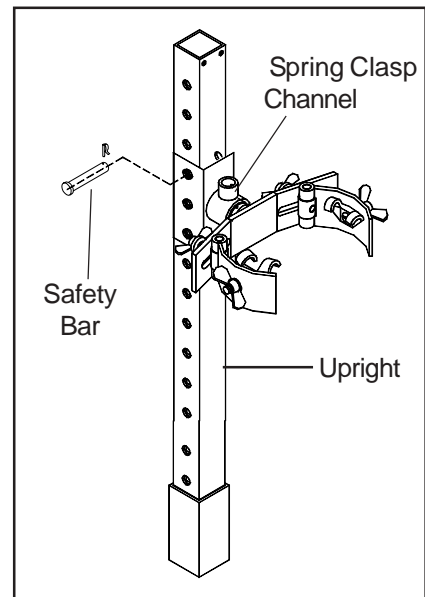

Figure 8
5. After spring is compressed, install safety bar into the hole on upright directly above strut spring channel (*refer figure 8*).